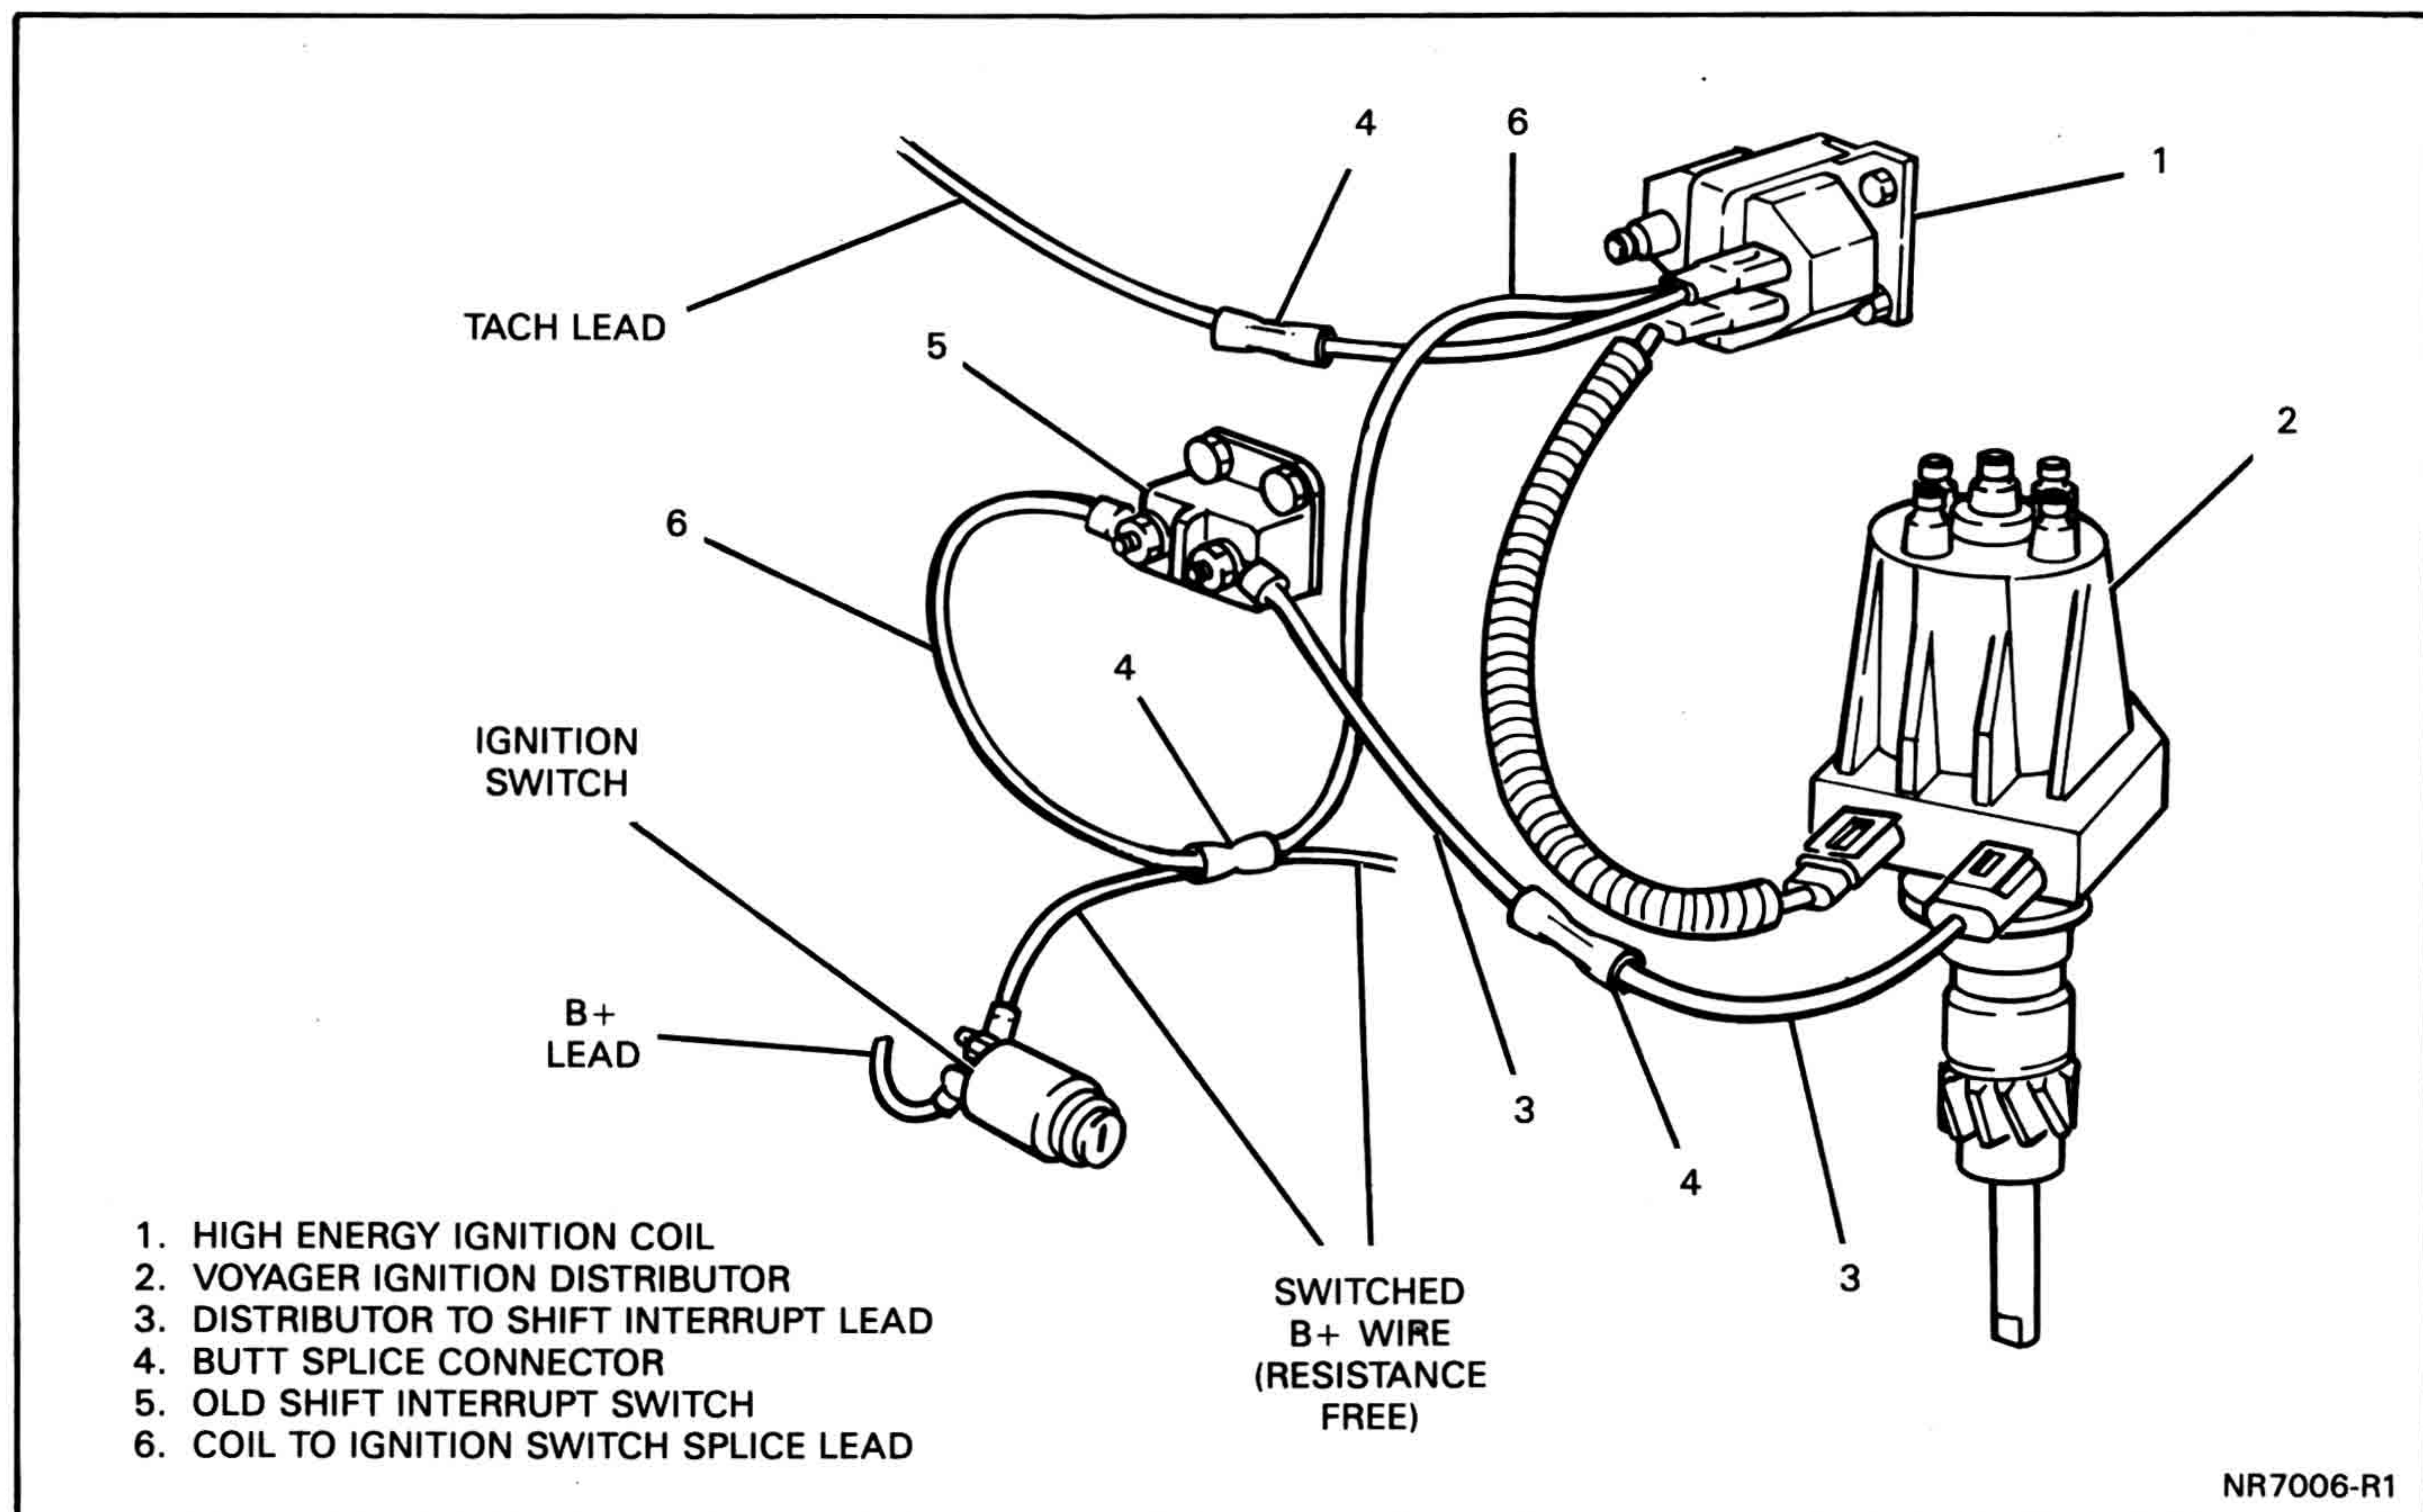

Figure 6 — Delco Voyager Distributor Ignition System Primary Circuit
16. Install distributor-to-coil wiring harness supplied in kit (see figure 6). Connect harness to 2-terminal connector on distributor and to mating connector on ignition coil. Be sure harness connectors are fully seated and latched.
17. Install connector with ignition switch and tachometer splice leads into ignition coil terminal (see figure 6). Be sure connector is fully seated and latched. Route gray and purple connector leads as follows:
Use of the shift interrupt circuit requires changing the shift interrupt switch from a momentary grounding switch to one that momentarily supplies B+ voltage to the distributor "R" terminal. Refer to engine manufacturer's wiring diagram and figure 6 for wiring circuits.
c. Use 18 AWG purple wire (cut free in step 16 or extra length provided in kit) to route lead from switched B+ source (see step 16 and figures 6 and 8) to other side of shift interrupt switch. Secure lead to existing wiring harness with continuous tape wrap so that free length of wire does not exceed 30 inches. Use butt splice connector